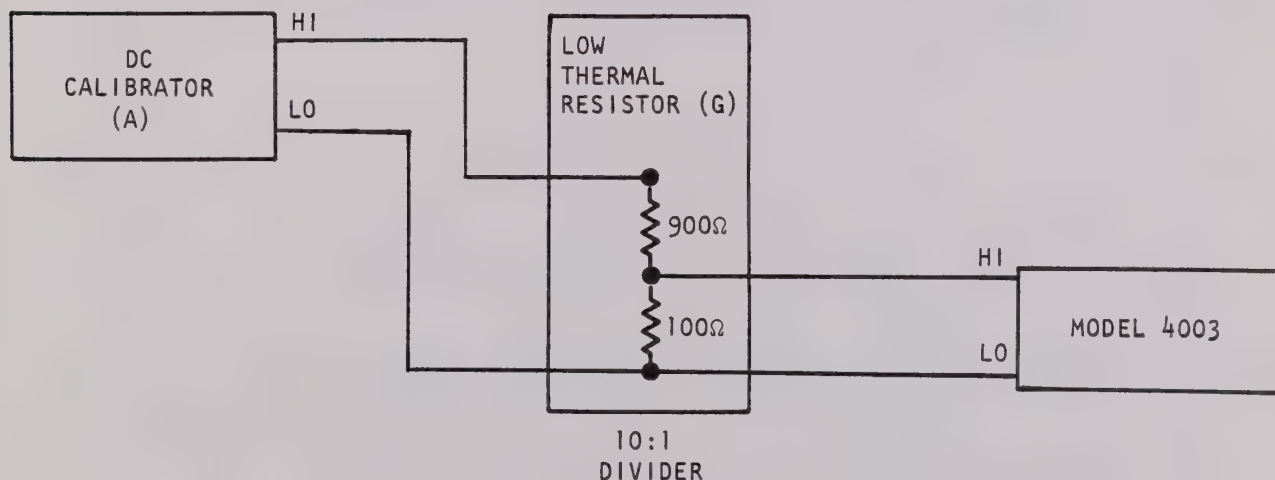

FIGURE 3-1. Test Circuit For 20mV DC Accuracy Check.
- 2) Disconnect test leads at the DC Calibrator (A) and short them. Adjust Model 177 front panel ZERO for a display indication of 0.000mV $\pm$ 0.001mV flashing.
- 5) Verify that the Model 4003 reading is between +189.89 to +190.11mV. Note that the allowable reading includes a ± 2 digit allowance for the uncertainty of the DC Calibrator (A).
- 8) Connect the DC Calibrator (A), Low Thermal Resistor (G) and Model 4003 as shown in Figure 3-1.
- 11) Verify that the Model 4003 reading is between +18.987 and +19.013mV. Note that the allowable reading includes ± 2 digits for DC Calibrator (A) uncertainty and ± 1 digit for Low Thermal Resistor (G) uncertainty.